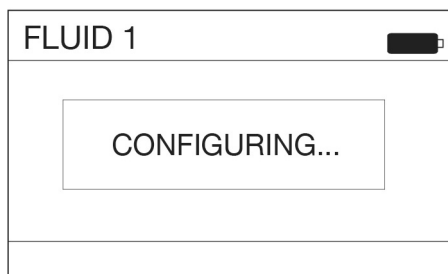

FIG. 57
3. When the profile tag is valid, a CONFIGURING (FIG. 57) message appears on the display.